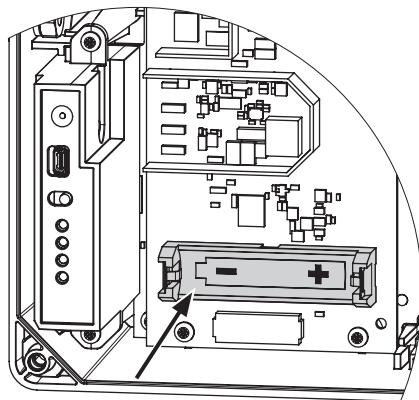

Fig. 5-2: Inserting the 1.5 V battery
1. Place the 1.5 V battery in the battery compartment (see Fig. 5-2)